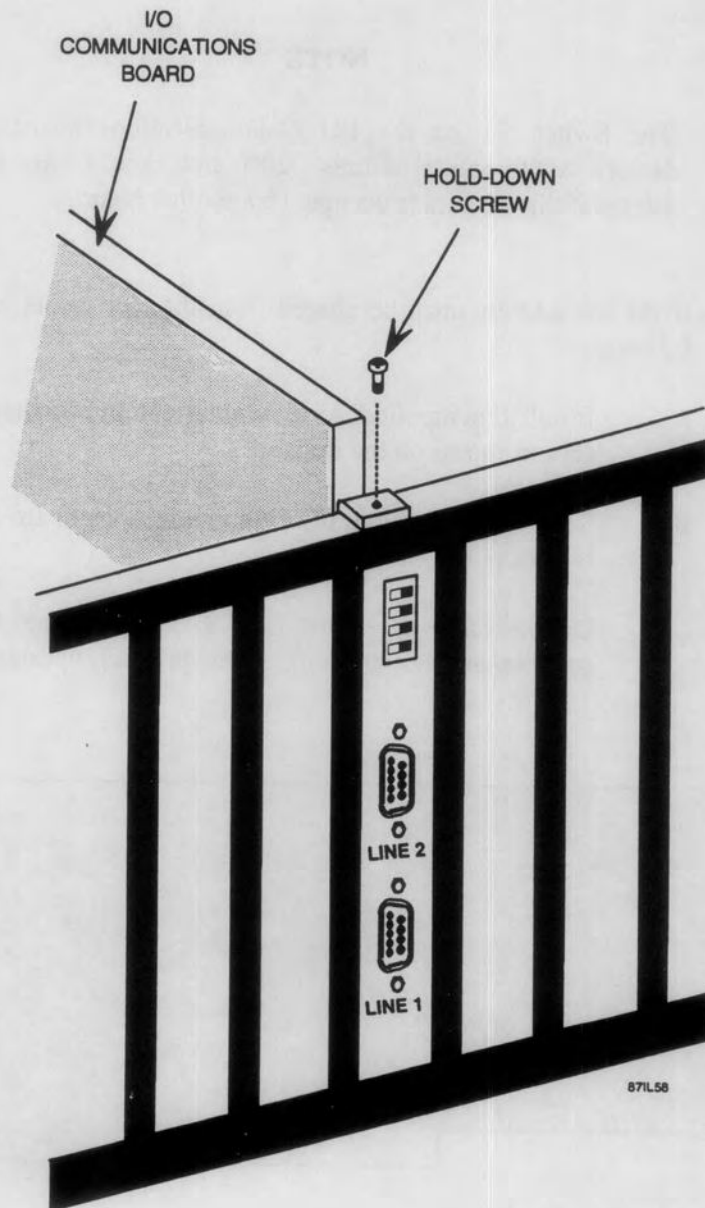

Figure G-2. Securing the I/O Communications Board
4. Replace the hold-down screw to secure the board (**Figure G-2**).